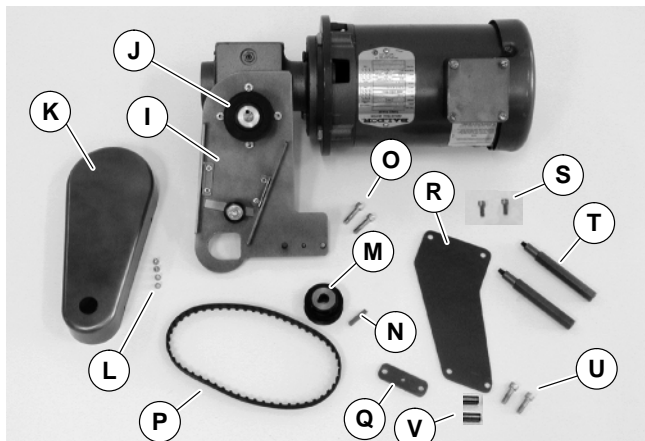

Figure 2
### 1. Typical components (Figure 2)
**NOTE:** Support Plate Spacer (Q of Figure 2) required for 2" & 3" wide conveyors only.
**NOTE:** 4100 conveyors do not include items Q through U of Figure 2.